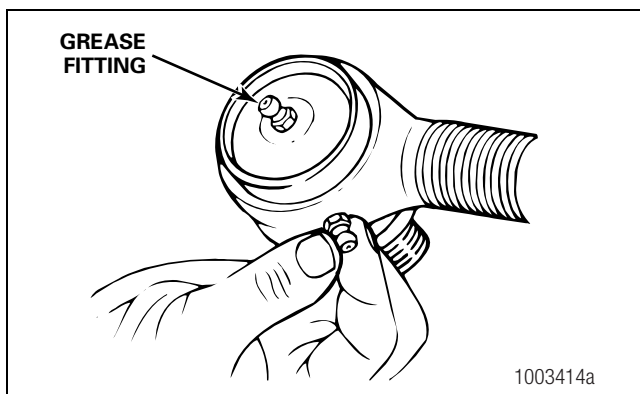

Figure 5.6
3. If the tie rod ends have grease fittings, check fittings for wear and damage. Replace worn or damaged fittings. If a grease fitting is missing, install a new one. Don't try to install a grease fitting onto a tie rod end that's a non-greaseable design. Figure 5.6.